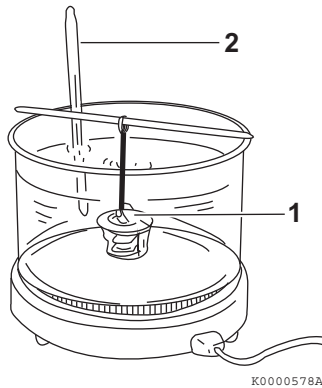

Figure 8-11
1. Check for proper operation of the thermostat. Place the thermostat (**Figure 8-11, (1)**) and an accurate thermometer (**Figure 8-11, (2)**) in warm water.